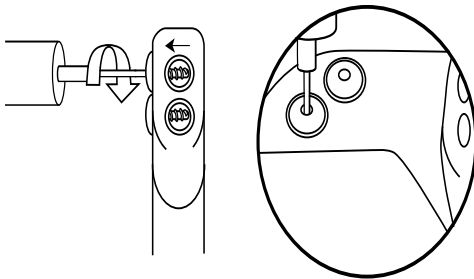
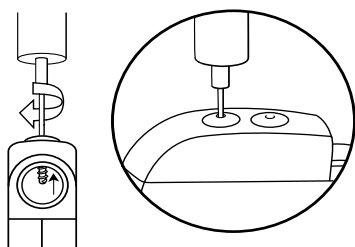

Figure 1.
Figure 2.
1. Insert the torque/hex wrench into the bisected grommet as shown in Figure 1 and Figure 2. The torque/hex wrench should be left inserted in each distal grommet until the lead is secure. This eliminates the “piston effect” (difficulty in inserting the lead due to compression of trapped air in